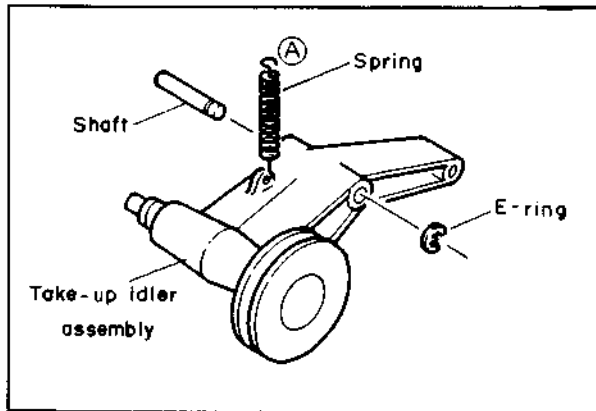

Fig. 4-30
1. Remove the E-ring (see Fig. 4-30), disengage spring (A) and remove the take-up idler assembly from the shaft.